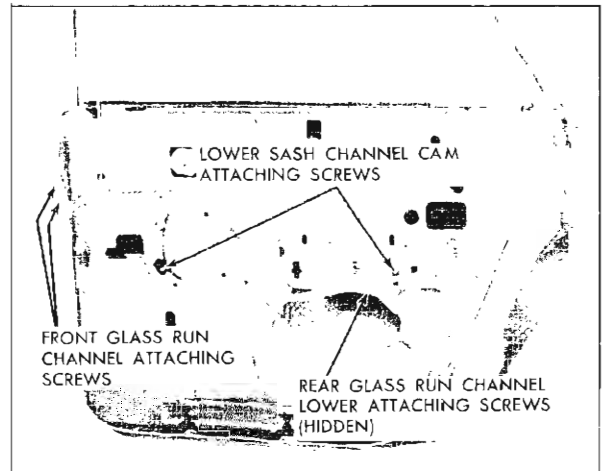

Fig. 3-48 Run Channel and Cam
2. Remove lower sash channel cam attaching screws and disengage cam from sash channel (see Fig. 3-48).